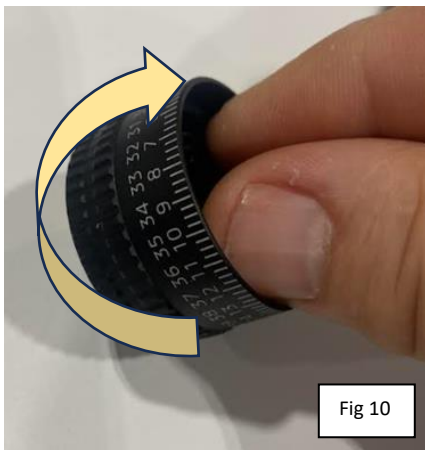

Fig 10
- Looking inside the turret ring, follow the engraved instructions by turning the internal ZERO-STOP lock ring **CLOCKWISE** with your fingertips until the ring stops rotating, clicks and **IS LOCKED (DOES NOT ROTATE)** (Fig 10). This procedure will set the ZERO STOP, stopping downward rotation when the turret is set at zero (0).